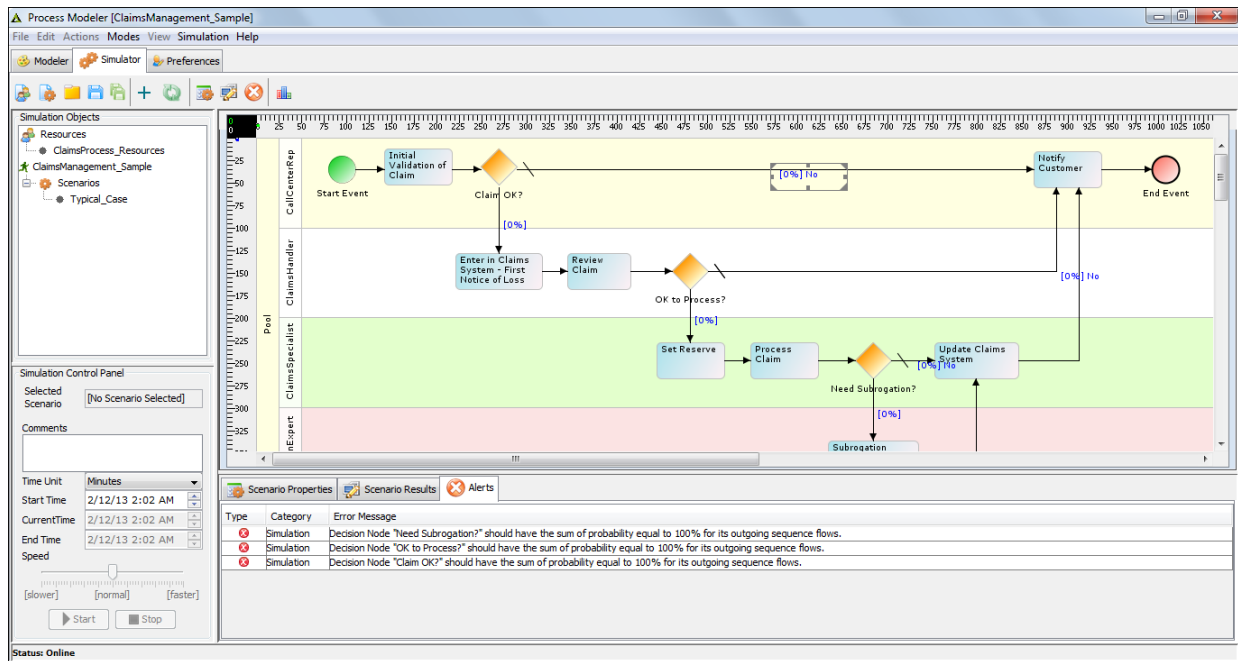

Figure 3: Process Simulator
6. In the Process Modeler applet click the **Simulator** tab. The process **Simulation** applet is displayed (see Figure 3).